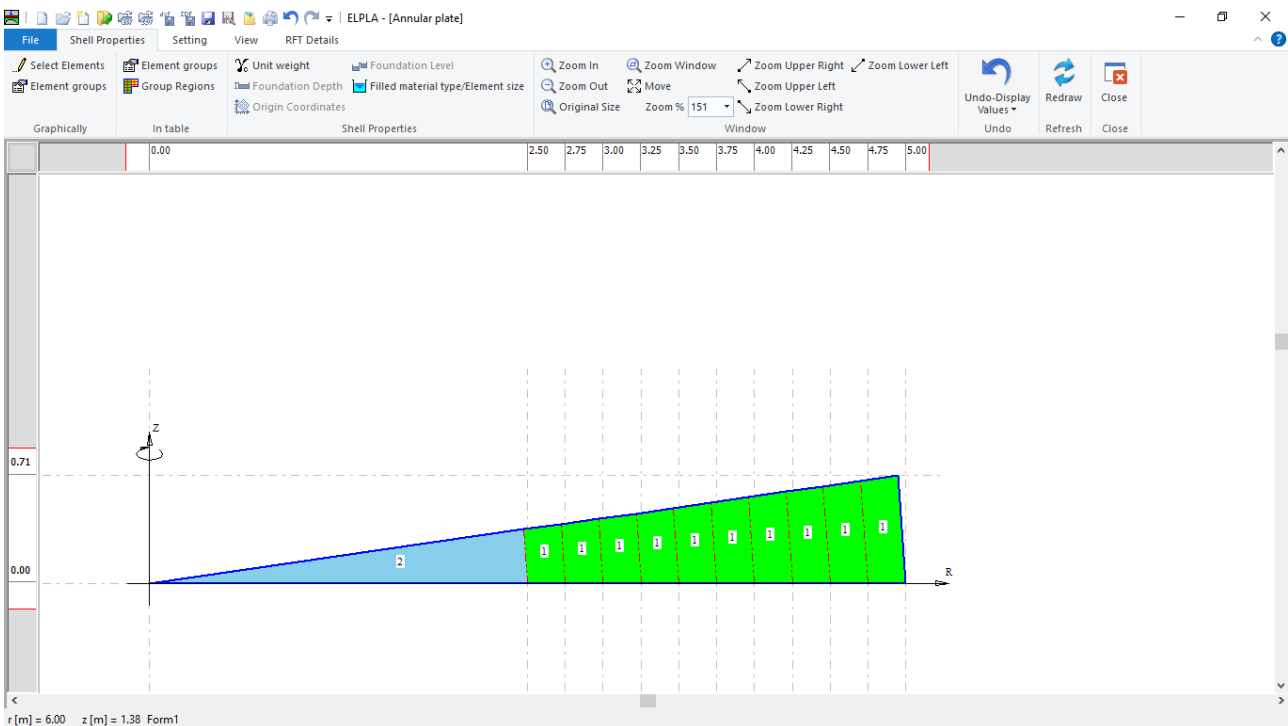

Figure 2.17 "Shell Properties" Window
Now the shell properties have been entered and the sector of the plate appears as follows in Figure 2.17.
- Choose "Save" command from "File" menu in Figure 2.17 to save the shell properties
- Choose "Close" command from "File" menu in Figure 2.17 to close the "Shell Properties" window and return to *ELPLA* main window